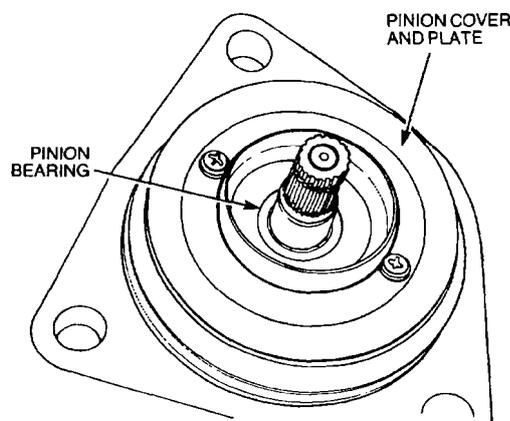

Figure 280 Removing the Pinion Cover and Plate
- o.** Remove the two screws securing the pinion cover and plate to the housing and remove the cover and plate (Figure 280).